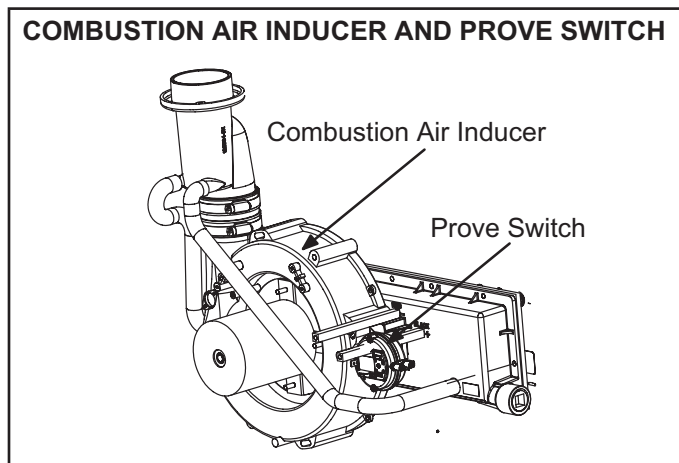
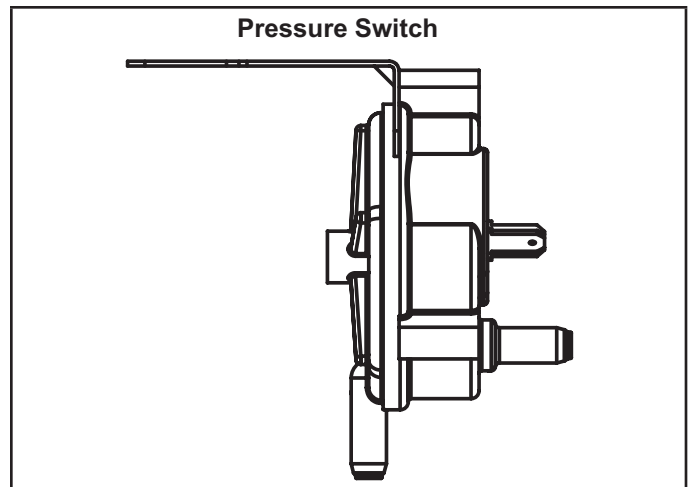

FIGURE 10
FIGURE 11
7. Combustion Air Inducer (B6) & Cold End Header Box (FIGURE 10)
8. Combustion Air Prove Switch (FIGURE 10 and FIGURE 11)